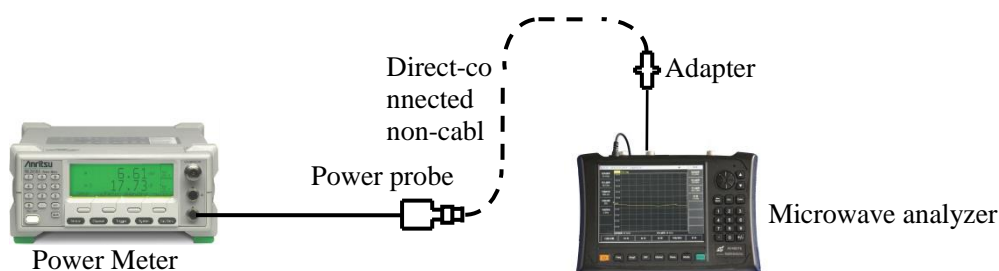

Fig. 4-14 Test block diagram of power level accuracy
- 1) Connect the power meter ML2437A with the power probe MA2445D for zero calibration, as shown in Fig. 4-14, and connect Port 1 of 4957 microwave analyzer to the power probe through the adapter;
- 3) Press **【Calibrate】** →[Cal Kit] to select the correct calibration kit, then press [M Cal]→[One Port@S11], as shown in Fig. 4-14, to complete the measurement of standard parts such as OPEN, SHORT and LOAD, and finally press [Done] to complete the calibration;
- 3) Press **【Calibrate】** →[Cal Kit] to select the correct calibration kit, then press [M Cal]→[One Port@S11], as shown in Fig. 4-14, to complete the measurement of standard parts such as OPEN, LOAD and SHORT, and finally press [Done] to complete the calibration;